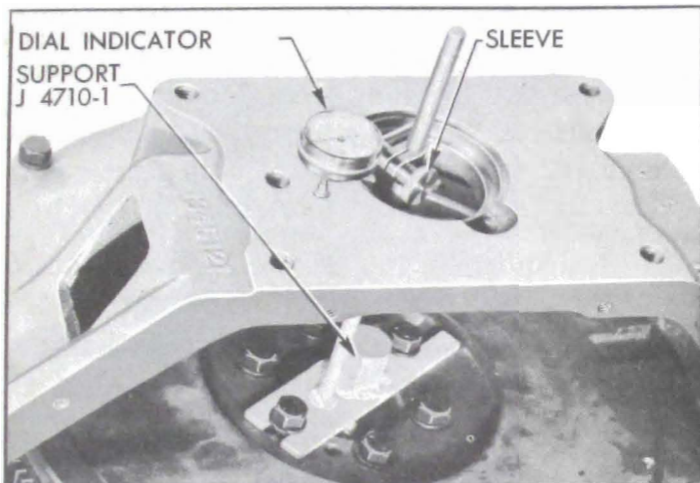

Figure 4-17—Checking Run-Out of Rear Face of Housing
7. Mount dial indicator to bear against rear face of flywheel housing at a radius of $2\frac{1}{2}$ " , as shown in figure 4-17.